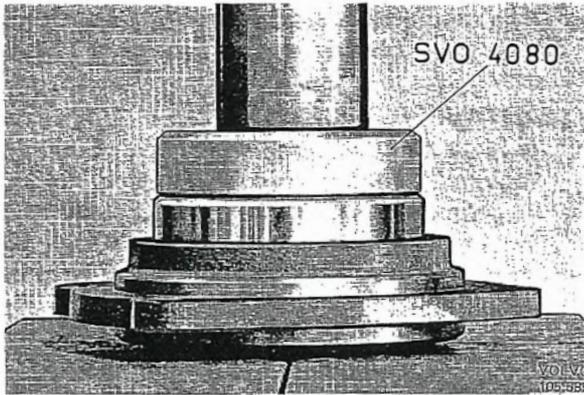

Fig. 4-17. Installing ball bearing in rear cover
1. Press the ball bearing into the rear cover, see Fig. 4-17, and fit the circlip. There are different thicknesses of circlips, so select one which fits snugly into the groove.